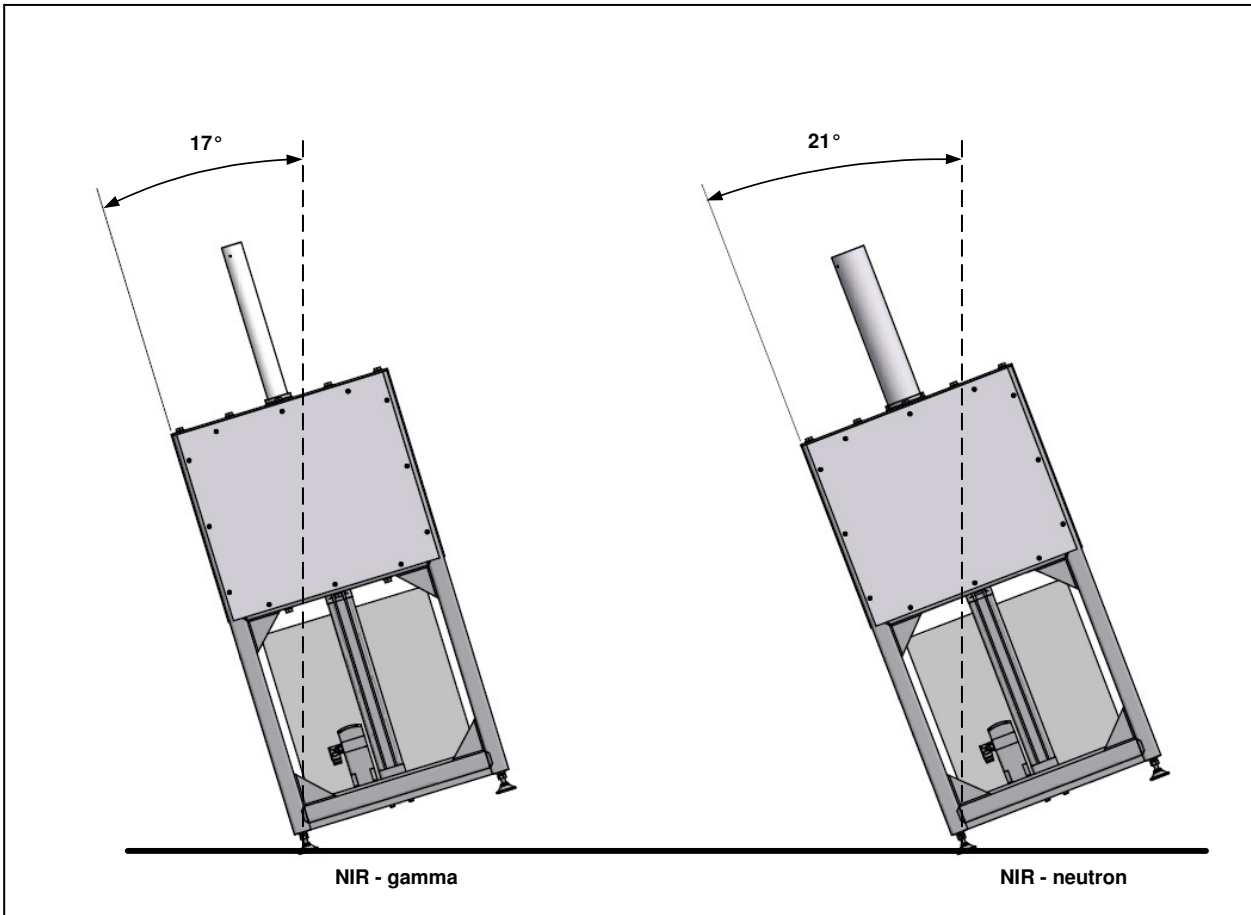

Figure 5: Due to the high position of the centre of gravity, the angles at which the gamma and neutron devices will tip over are 17° and 21° respectively.
- Because of the risk for tipping over, care shall be taken when a forklift is used to lift the irradiator. Fix the irradiator to the forklift using a belt to prevent it from tipping over. The use of a manual pallet truck / jack is recommended. Verify that the lifting capacity is sufficient. The angles at which the device will tip over are 17° and 21° for NIR – gamma and NIR – neutron, respectively (see also Figure 5).